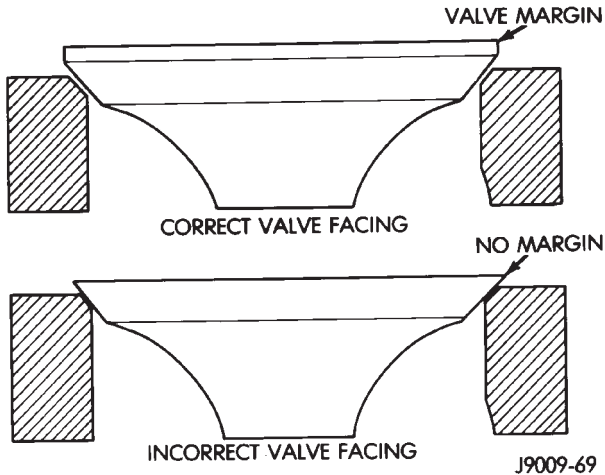

Fig. 61 Valve Facing Margin
- (1) Use a valve refacing machine to reface the intake and exhaust valves to the specified angle.
- (2) After refacing, a margin of at least 0.787 mm (0.031 inch) must remain (Fig. 61). If the margin is less than 0.787 mm (0.031 inch), the valve must be replaced.